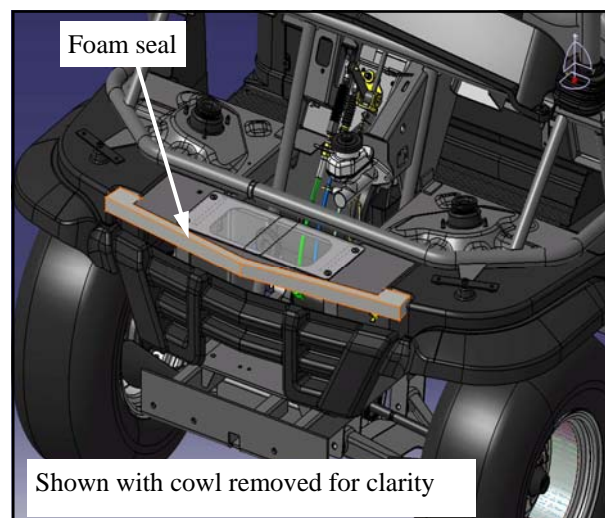

Figure 13
1. Install anti-draft barrier by working around hoses and cables. (See figure 13). Note that the slots for the heater hoses (not shown) will need to be cut and folded down around the heater hoses.